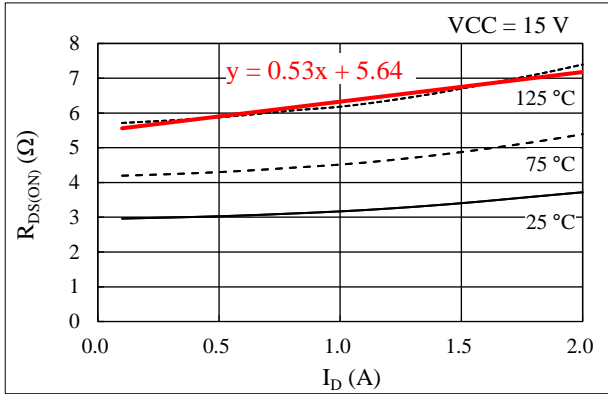

Figure 14-2. Linear Approximate Equation of $R_{DS(ON)}$ vs. I_D
Steady-state loss in a power MOSFET can be computed by using the $R_{DS(ON)}$ vs. I_D curves, listed in Section 15.3.1. As expressed by the curves in Figure 14-2, a linear approximation at a range the I_D is actually used is obtained by: $R_{DS(ON)} = \alpha \times I_D + \beta$. The values gained by the above calculation are then applied as parameters in Equation (7), below. Hence, the equation to obtain the power MOSFET steady-state loss, P_{RON} , is: